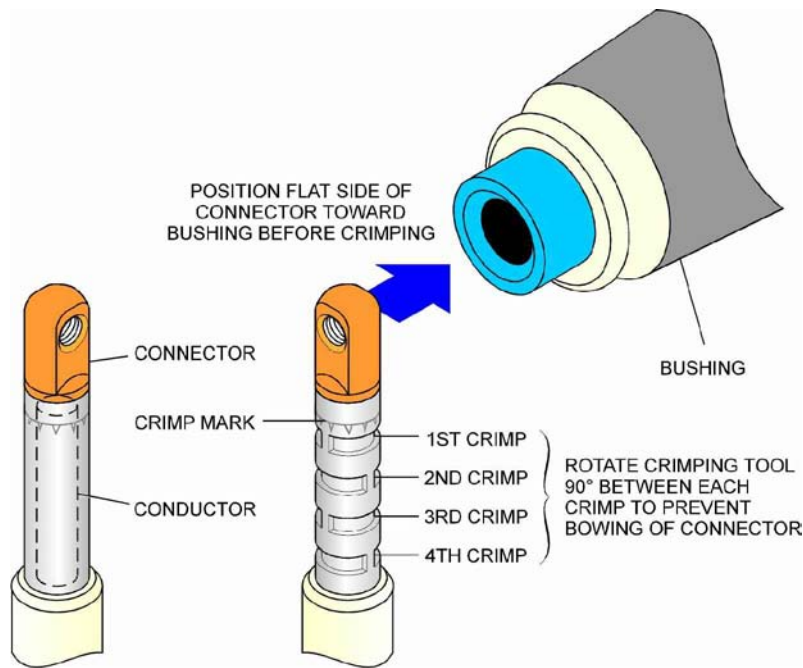

FIGURE 5
POSITION THE CONNECTOR ON THE CONDUCTOR SO THAT THE FLAT SIDE FACES THE TRANSFORMERS BUSHING WHEN THE CABLE IS TRAINED INTO POSITION. BUTT THE CONNECTOR AGAINST THE CONDUCTOR AND CRIMP ACCORDING TO THE MANUFACTURER'S INSTRUCTIONS. STARTING AT THE "TOP" OF THE CONNECTOR (THE CRIMP MARK NEAREST THE THREADED HOLE), MAKE FOUR (4) CRIMPS USING A 5/8" OR BG DIE. SUCCESSIVE CRIMPS WILL PROGRESS TOWARD THE CABLE INSULATION AND THE CRIMPING TOOL MUST BE ROTATED 90° BETWEEN EACH CRIMP TO PREVENT THE CONNECTOR FROM BOWING. SEE FIGURE 5. REMOVE ANY SHARP FLASH.